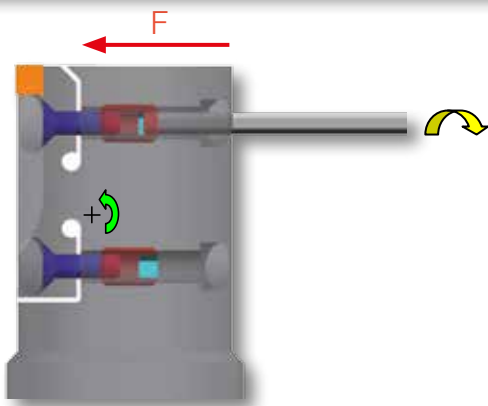

FIG. 1
- first move adjusting screw 1 clockwise (see fig. 1)